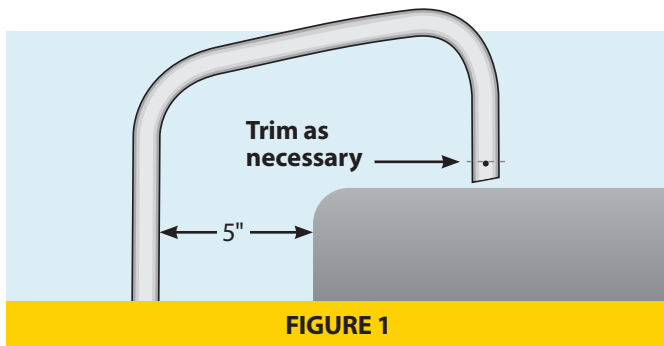

FIGURE 1
2. Insert the (2) Top U-Shape Ladder Sections (**Part 1**) into the Middle Straight Ladder Section (**Part 2**). Bolt them together using (2) #10-24 x 30 mm bolts (**Part 7**).
4. Trim the roof mount ends of the Top U-Shape Ladder Section vertical tubes so the ladder will mount flush to the roof (trimming may not be necessary). If you trim off the pre-drilled holes, you will need to drill 3/16" holes, 1/2" up from the bottom of the newly cut tube. See **Figure 1**